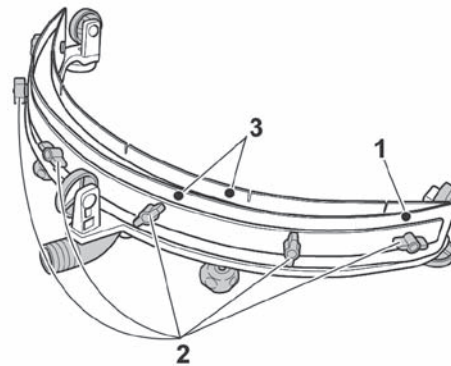

Fig 21
- Wash the squeegee unit, and specifically the rubber blades (4) and the inside of the vacuum hose connector (5). (Fig 21)